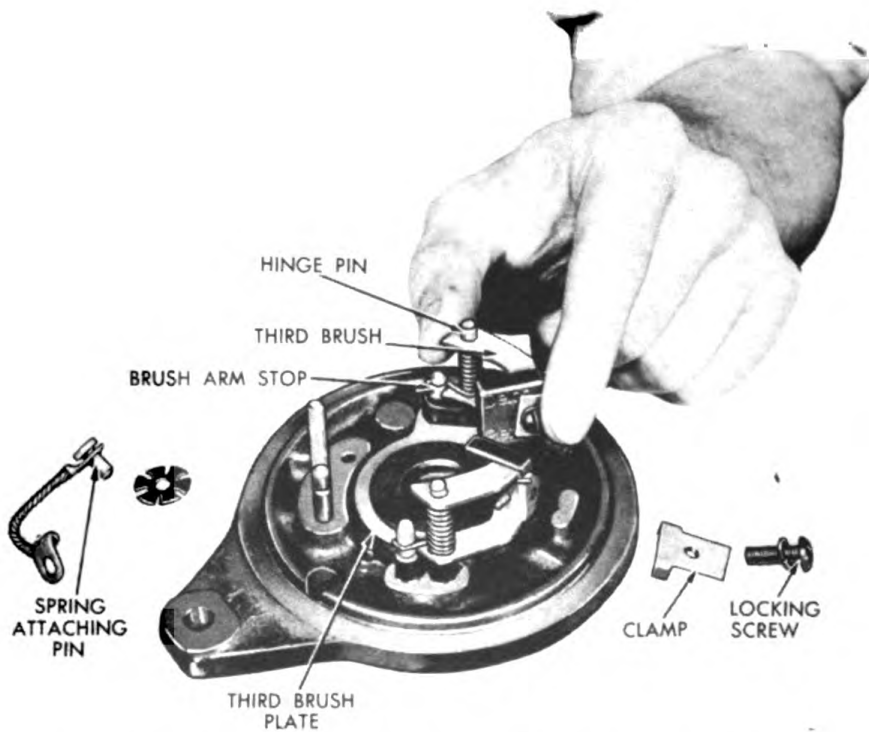

Figure 262. Removing Third Brush and Locating Screw.
- c. Remove the ground brush lead and lockwasher connecting the ground lead to the brush holder. The brush and brush washer will also come up. See Figure 262.
- e. To detach the third brush plate, unscrew the third brush locating screw from the outside of the frame and remove the clamp, and with a $\frac{1}{8}$ " punch, drive out the brush plate spring attaching pin so that the spring, ground lead, and third brush plate may be detached from the frame. See figure 262.